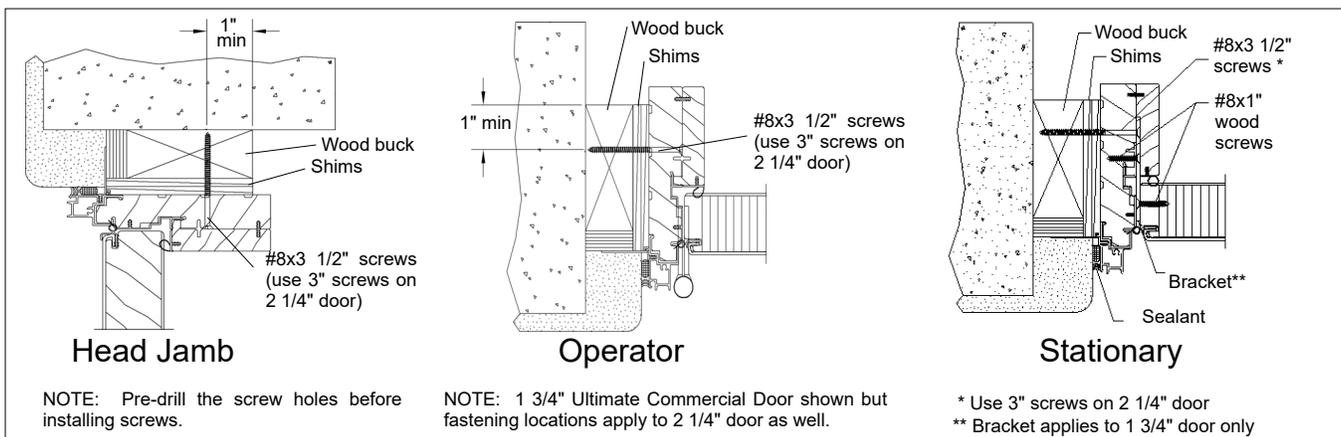

Figure 1 Illustration shows masonry application but applies to wood also.
length of the jamb screw may vary depending on type of unit, location, and operation of the panel; a minimum screw length of 3 1/2" (89) is required. Screws must be a minimum of 1" (25) from edge of buck with a minimum 1 1/4" (32) penetration. Place the screws 6" (152) from each corner, maximum 12" (305) on center, with a minimum of 2 per side. See figure 1. For stationary units, remove the part stops and install #8x3 1/2" wood screws through the hole in the stationary brackets. Reinstall the part stops. See figure 1.